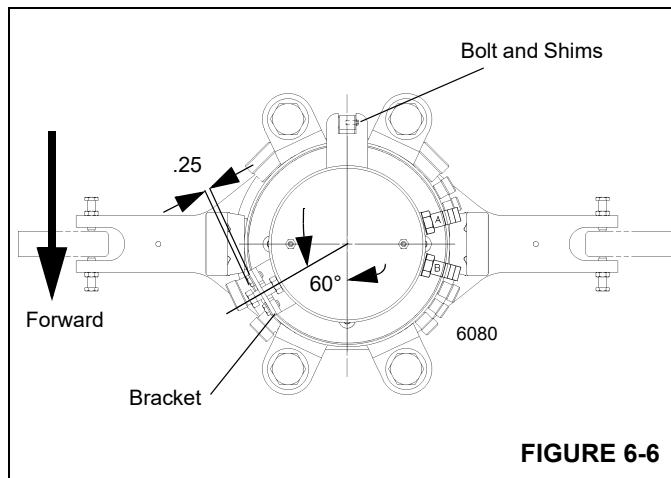

FIGURE 6-6
3. Ensure the threaded hole on the bottom of the electrical swivel base is aligned with the mounting hole in the bracket on the hydraulic swivel case. Install the bolt through the hole in the bracket and install the nut. Screw the bolt into the hole in the electrical swivel base until the bolt head is approximately 0.25 in (6.4 mm) from the bracket. Tighten the nut against the electrical swivel (Figure 6-6).